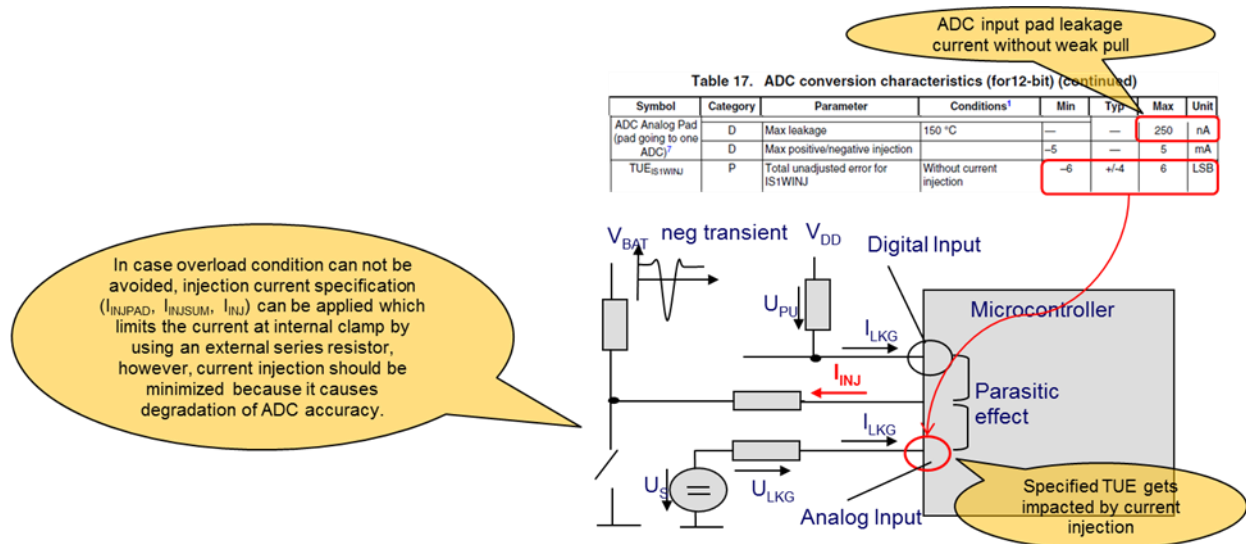

Figure 23. Effect of injection current on ADC performance
- Note that ADC input pad must never exceed its own IO segment supply voltage where the input pad resides. If ADC input pin is higher than IO supply where the pin resides, then this will cause ESD diodes in pads to forward bias. Figure 23 shows the effect of injection current on performance.